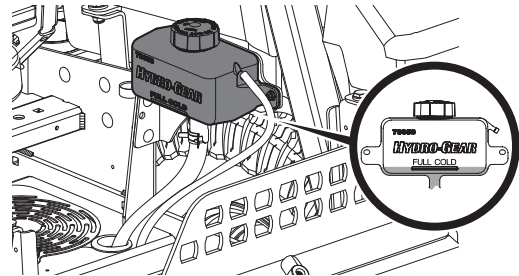

Figure 44
2. Turn the reservoir cap counterclockwise to remove, then check the oil level in the reservoir. Oil should be visible at the bottom of the cup, but the oil level must NOT be above the "FULL COLD" line (Figure 44). DO NOT FILL THE RESERVOIR.